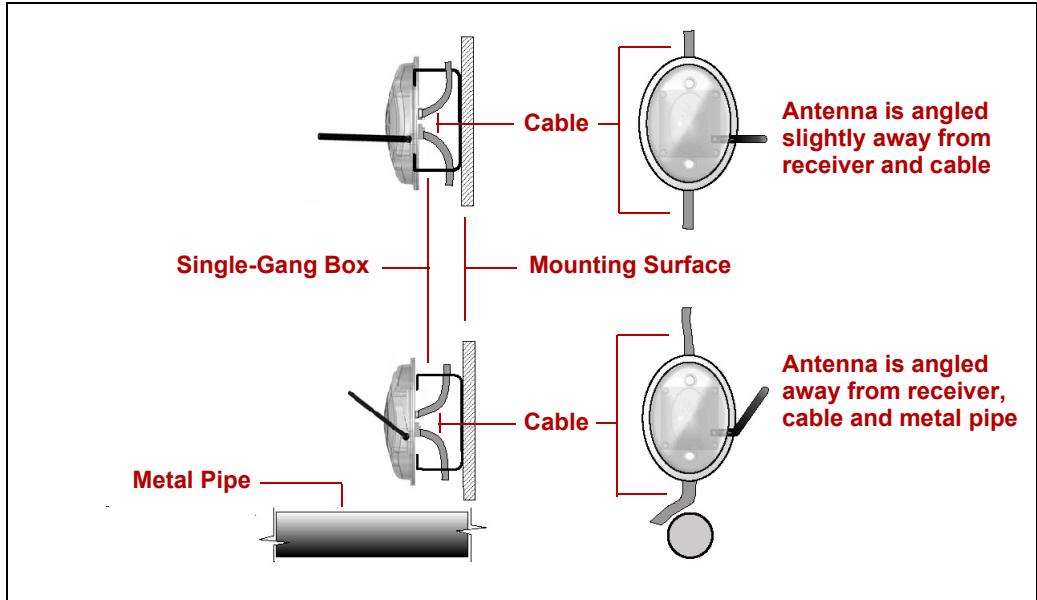

Figure 3-10: Antenna Orientation With and Without Adjacent Objects
- 11** Move the antenna into its final position. Refer to Figure 3-10 on page 3-23.